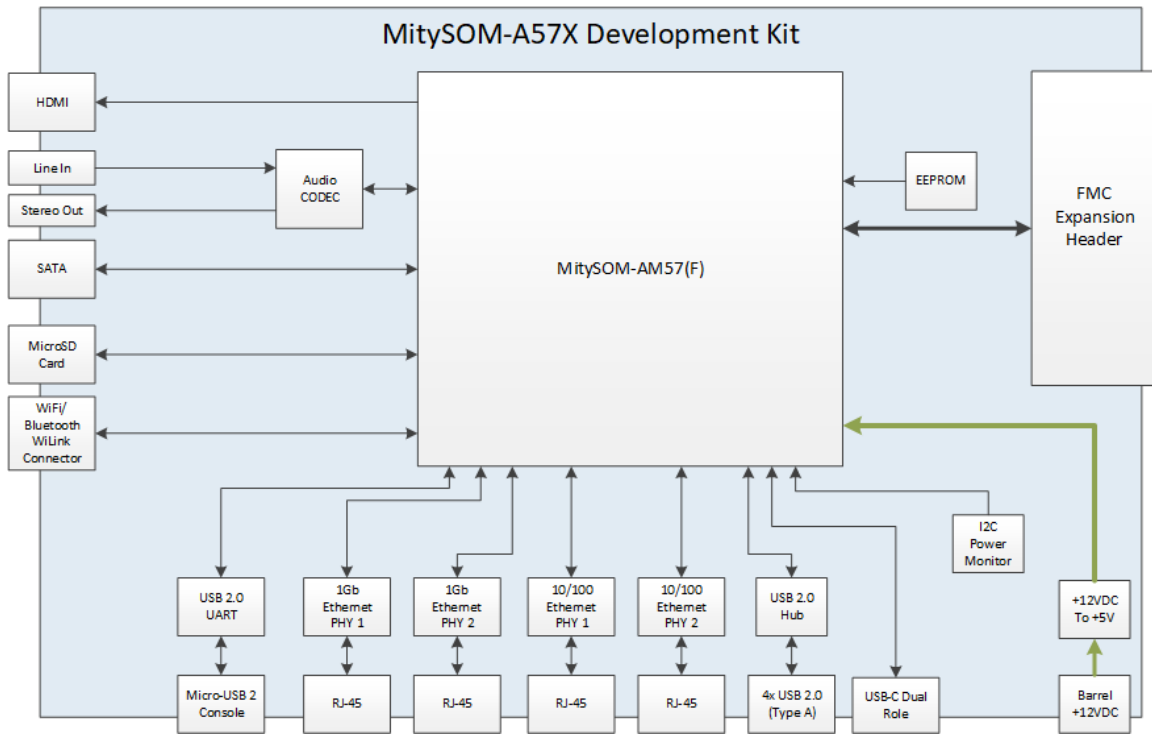

Figure 1: MitySOM-AM57(F) Development Kit Block Diagram
A block diagram of the MitySOM-AM57(F) Development Kit is illustrated in Figure 1. Control of the on-board interface hardware and connected Expansion IO cards require proper configuration of the MitySOM-AM57(F) Module. While not required, it is strongly recommended that the MitySOM software development kit and supplied API be used to manage these interfaces.